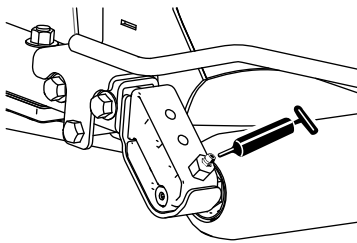

Figure 43
- 2 (per cutting unit) rear roller bearings (Figure 43)